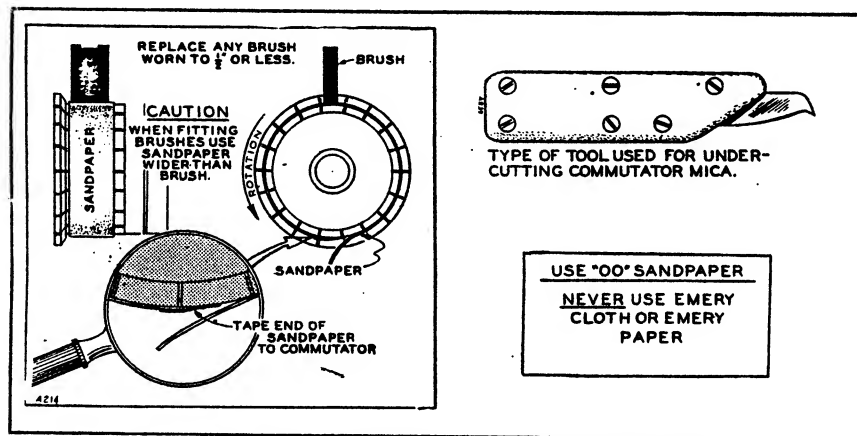

FIG.47- CARE OF COMMUTATOR AND BRUSHES
**COMMUTATOR.** - The commutator bars wear down with usage so that the mica between them must be undercut. This should be done as soon as the mica on any part of the commutator touches the brushes. A suitable undercutting tool can be made from an old hack saw. Use it as shown in Fig. 47. Avoid injury to the surfaces of the copper bars. Leave no burrs along the edges of the bars. The mica must also be undercut whenever the commutator is refinished.